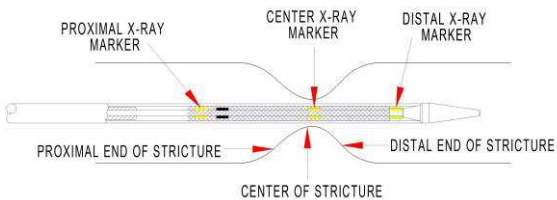

Figure 3
- d) When the center X-ray marker reaches the center of target stricture, continue pulling back on the Y-connector until the stent is fully deployed. (See figure 3, 4)